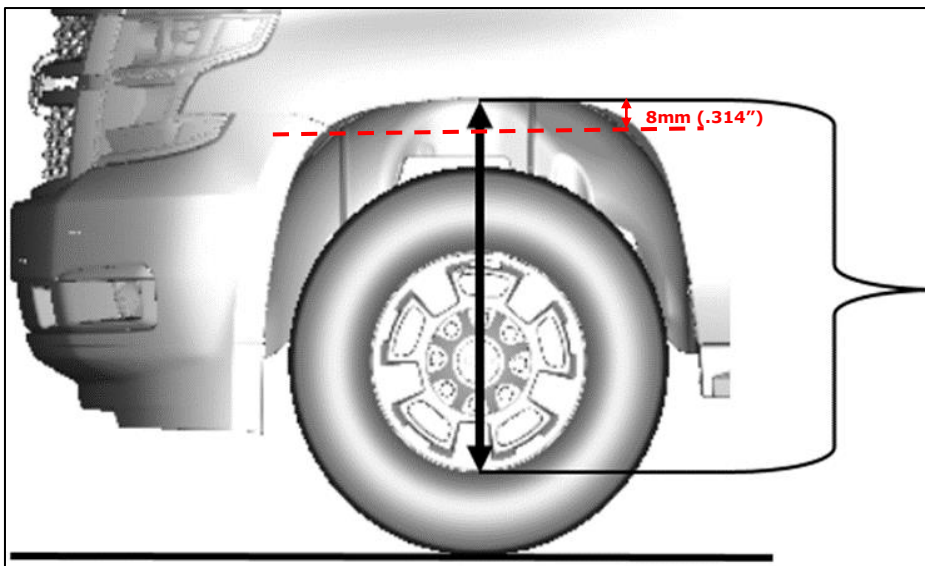

Figure 2
5. Repeat steps 1-3. If trim height has decreased (lowered) more than 8mm (.314") from that of the "as receive" height, the suspension must be readjusted using the steps outlined below. Refer to Figure 2.